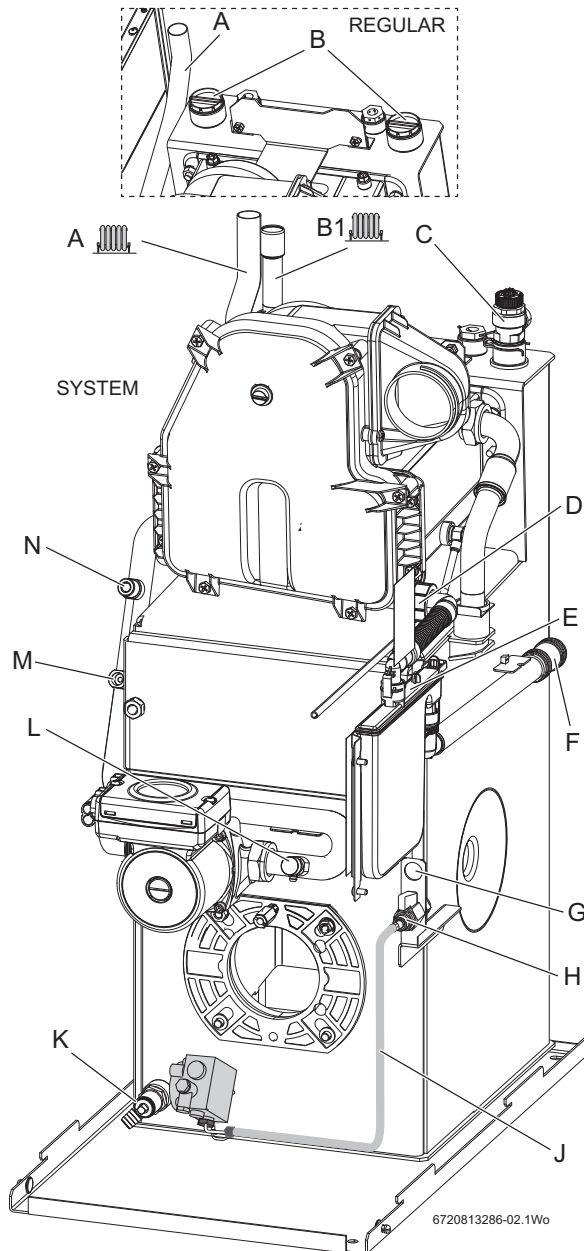

Fig. 46 Pipework connections
- ▶ Refer to figure 46 and ensure that the isolating valve (H) is closed and route the oil supply pipe along the right side of the boiler and connect to the isolating valve (H).